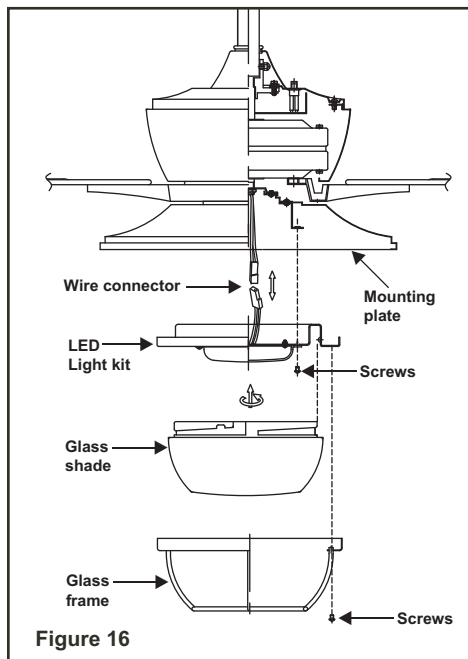

Figure 16
**Step 1.** Remove the 1 of 3 screws from the posts of the mounting plate and keep it for future use. Loosen the other 2 screws. (Do not remove) (Fig. 16)
**Step 3.** Place the key holes in the LED light kit over the two screws previously loosened from the mounting plate. Turn the LED light kit until the LED light kit locks in place at the narrow section of the key holes. (Fig. 16)
**Step 4.** Securely tighten the two light kit mounting screws previously loosened and the one previously removed. (Fig. 16)
**Step 5.** Raise glass shade up against the LED light kit, and secure it to fan by turning light kit shade clockwise until snug. DO NOT OVERTIGHTEN. (Fig. 16)
**Step 6.** Install the glass frame onto the light kit with the four screws provided. Be sure to tighten all screws. (Fig. 16)